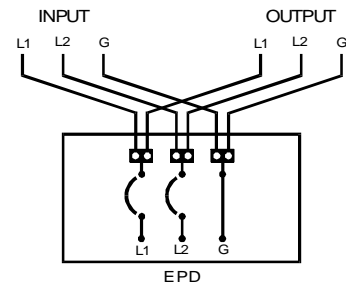

FIG. 3
4. The Surge Protector should be wired as shown in FIG. 3 to provide maximum performance. This allows for a “zero” lead length or Kelvin connection to the Surge Protector. When using this recommended method, use the two outer knockouts, so that the input wiring enters on one side, and the output wiring exits on the other side. It is possible to wire the unit parallel to the supply. In this case, tap conductors are run into the unit (the single center knockout may be used), and only one wire lead terminates on each wiring terminal. This method does not provide the optimum surge performance of the recommended Kelvin connection method.